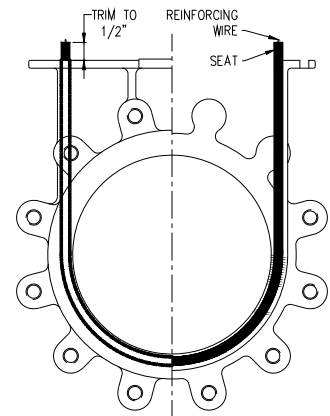

Figure 4
- E. Push the seat down until it reaches the bottom of the valve, keeping both ends of the seat extending equally from the top of the valve as shown in figure 4.
- H. Trim the remaining material at the top of the valve body approximately 1/2” above the mounting flange per figure 4.